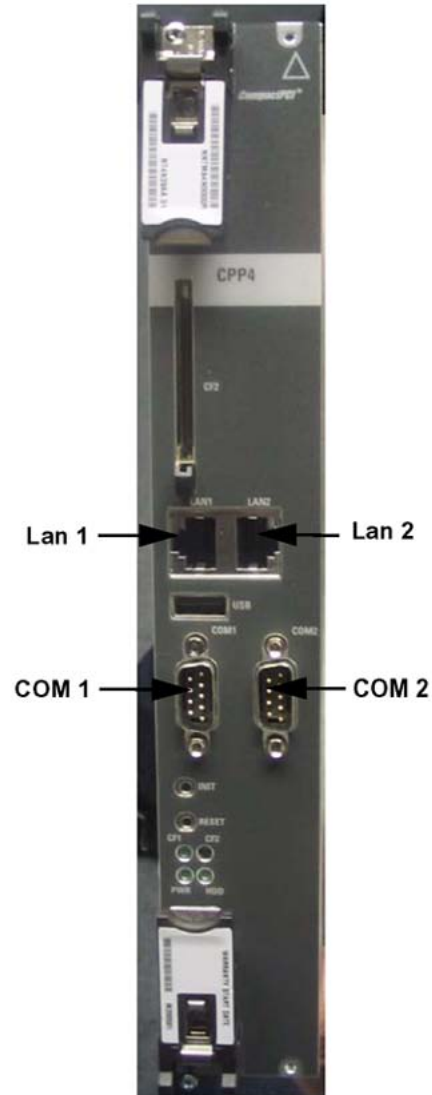
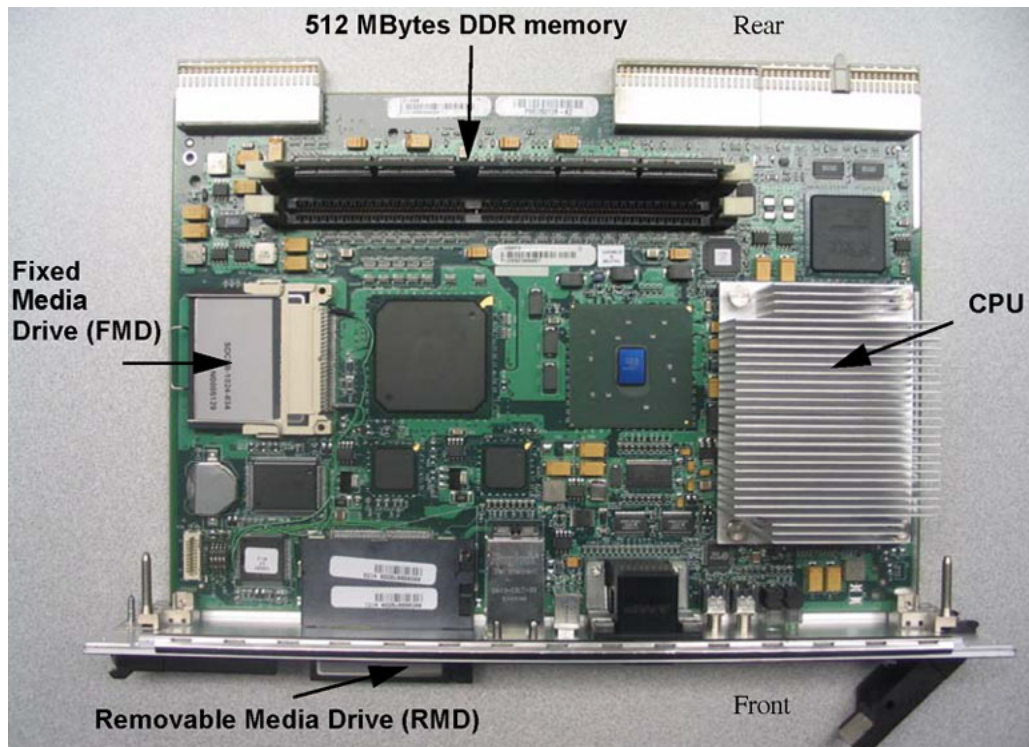

Figure 27: CP PIV card (front)
Figure 28: CP PIV card (side)
- two CompactFlash (CF) sockets (one on-board and one hot-swappable on the faceplate). The on-board CF is referred to as the Fixed Media Disk (FMD), and the faceplate CF is referred to as the Removable Media Disk (RMD). See Figure 27: CP PIV card \(front\) on page 141 and Figure 28: CP PIV card \(side\) on page 142.
The NT4N39AA card measures 23 cm by 16 cm (9,2 in. by 6.3 in.). See Figure 27: CP PIV card \(front\) on page 141 and Figure 28: CP PIV card \(side\) on page 142.